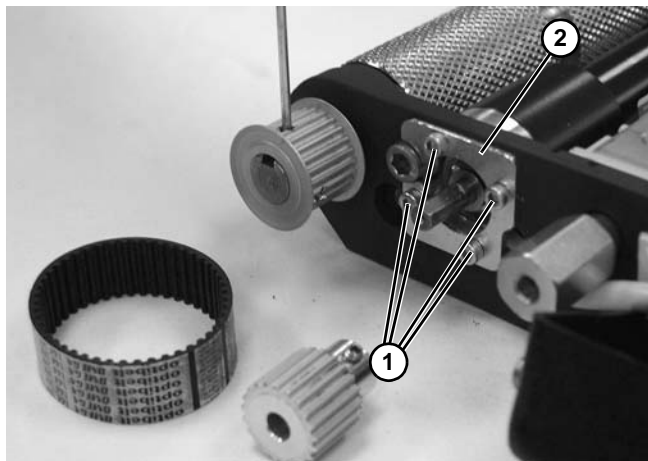

Figure 74
- Remove four clamp plate screws (**Figure 74, item 1**) and clamp plate (**Figure 74, item 2**).